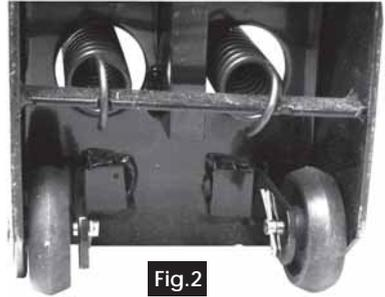

Fig.2
Position the wheels and washers (supplied) into position, insert the axle pin from the outside and secure with the split pin provided, in the manner shown in Fig.2
- Turn the release lever - A, Fig.2 fully anti clockwise, to retract the ram and when it has retracted fully, turn it fully clockwise.